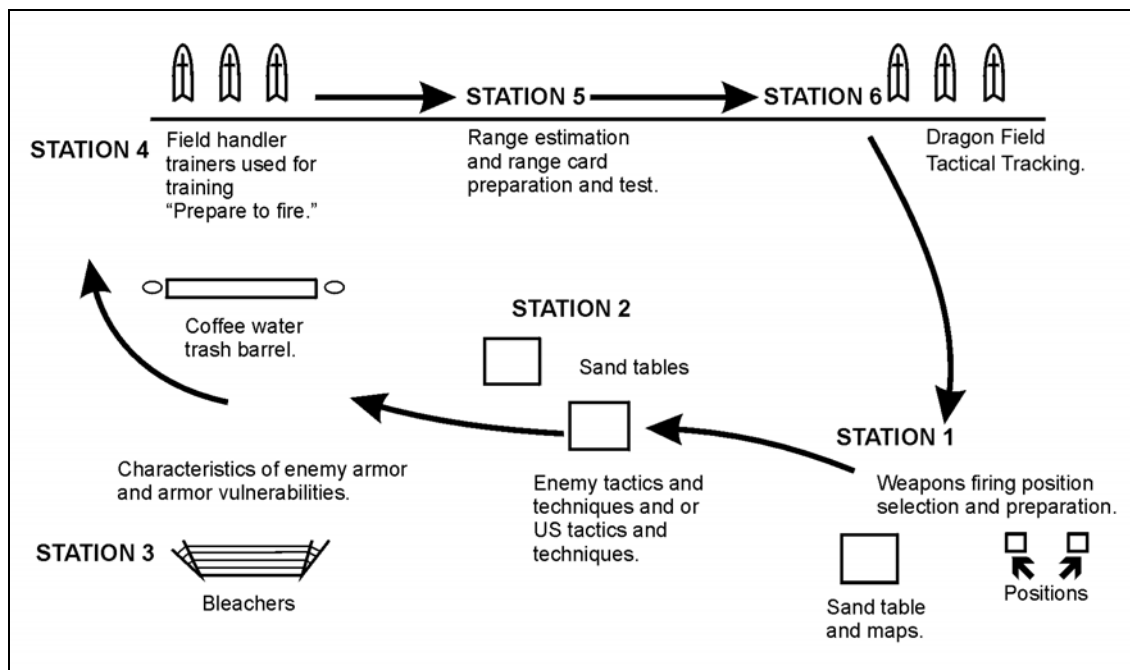

Figure 4-1. Example of round-robin training.
(2) **Round-Robin Training.** Battalions have a limited number of training sets, so soldiers cannot practice all at once. Rather than letting a few soldiers practice on the equipment while others watch, trainers can set up round-robin (multistation) training. Soldiers then rotate through the stations. This keeps everyone actively engaged in training the whole time. For example, soldiers might train on the equipment itself at Station Number 1, learn to prepare range cards at Station Number 2, and learn to identify enemy vehicles at Station Number 3 (Figure 4-1).